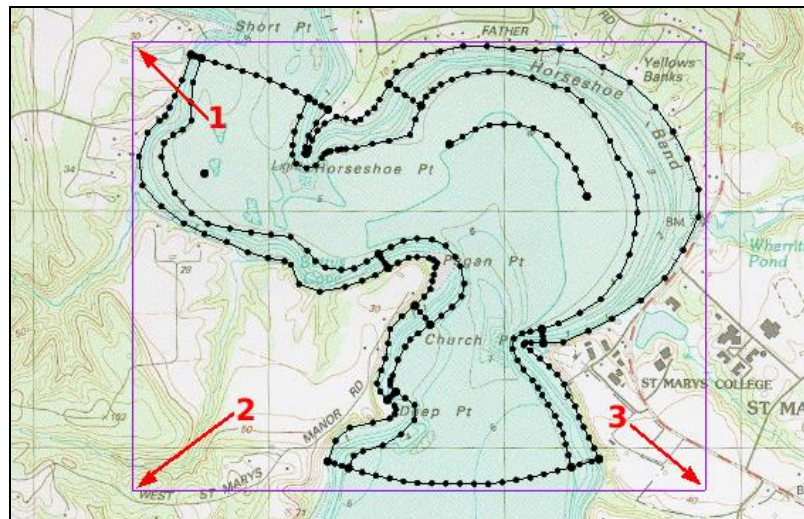

Figure 13 Grid frame locations
7. Using the **Create 2D Grid Frame**  tool, click on location 1 as shown in Figure 13.